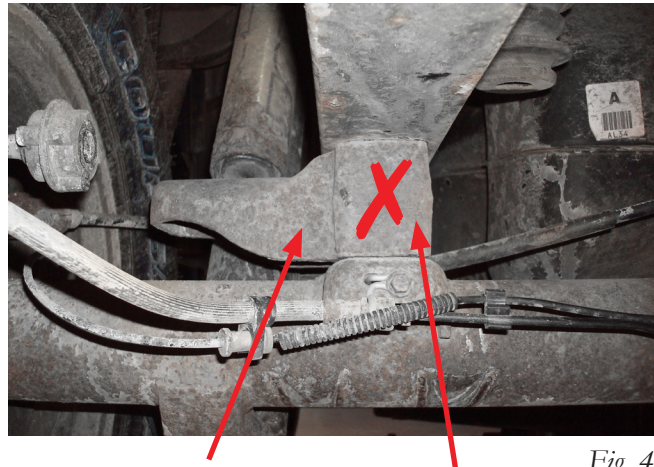

Fig. 4
- Remove the stock U-bolts on both driver's (left) and passenger's (right) sides and discard. Lower the axle assembly or raise the frame up slowly, far enough to remove the jounce bumper strike plate/spacer blocks from between the leaf spring and axle. Move the driver's (left) side to the passenger's (right) side and the passenger's (right) to the driver's (left) side and install back between the leaf spring and axle (Fig. 4). Ensure that the mark on the back of the jounce bumper strike plate/axle spacer faces the rear. The strike plate should face the wheel, leaving the space between the frame and axle open. Drop the frame or raise the axle assembly slowly just far enough to hold the jounce bumper strike plate/spacer blocks into position.